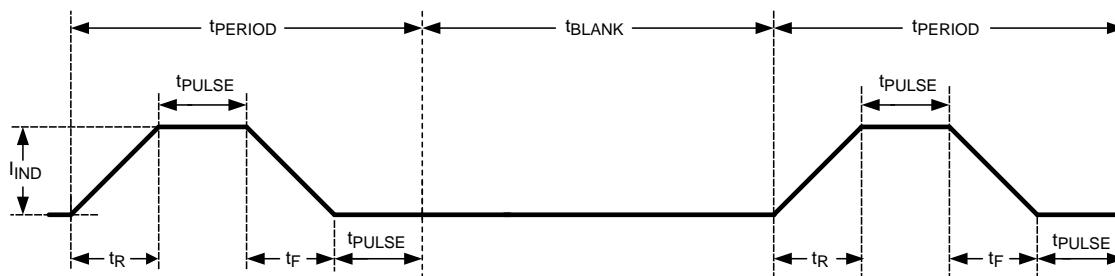

Figure 42. Message Indicator Timing Diagram
3. Ramp times for turnon and turnoff of the indicator current source (see Figure 42 for the message indicator timing diagram).
- (see Figure 42)